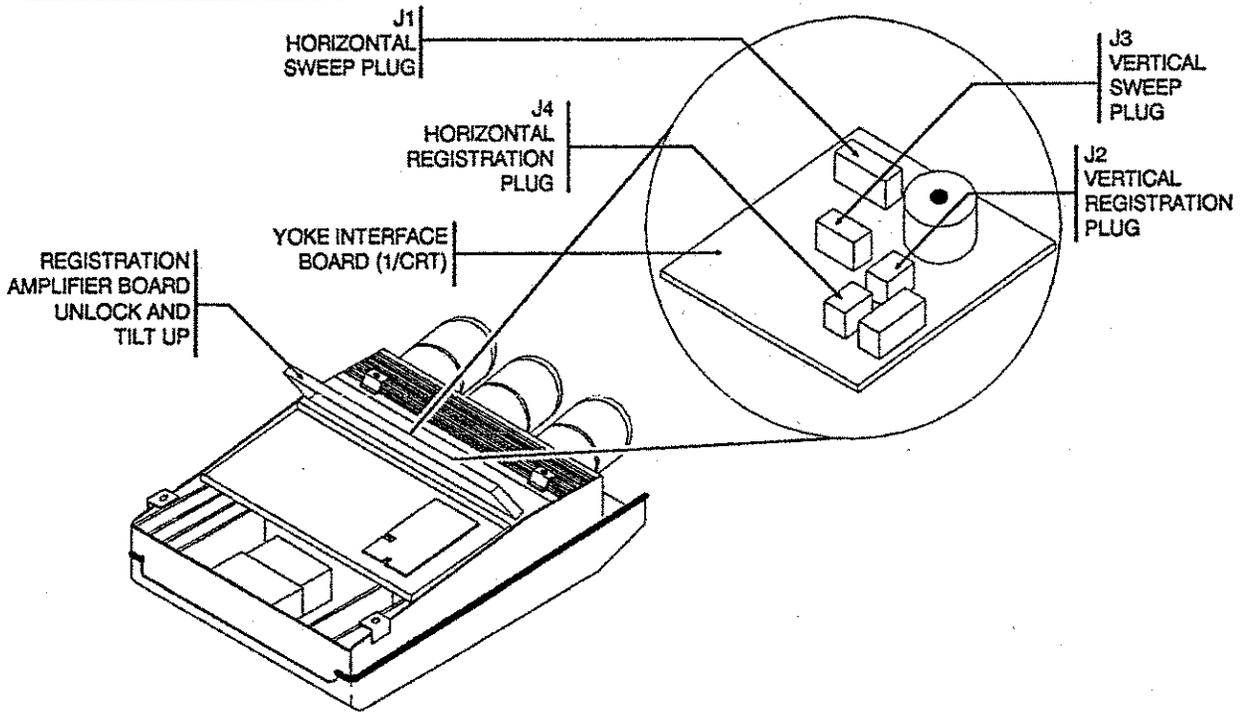

FIGURE 5-6.
- STEP 2. Unlock and tilt up the Registration Amplifier Board, which is across the front of the system. The three Yoke Interface Boards under the Registration Amplifier Board are now exposed. Refer to figure 5-6.
- STEP 3A. On the yoke interface Board, locate and pull the Vertical Sweep Plug (P3) out of (J3) turn it end-for-end (180°) and plug it back into (J3). See figure 5-6.
- STEP 3B. Again on the Yoke Interface Board, pull the Vertical Registration Plug (P2) out of (J2), turn it end-for-end and reinsert it into (J2). See figure 5-6